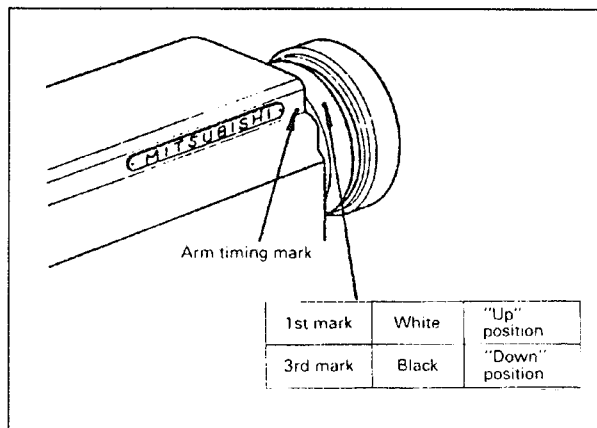
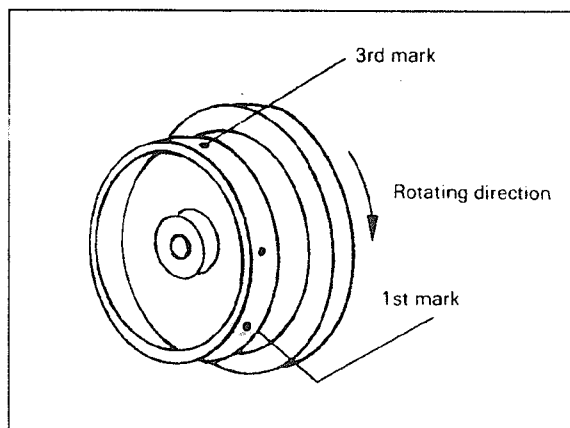
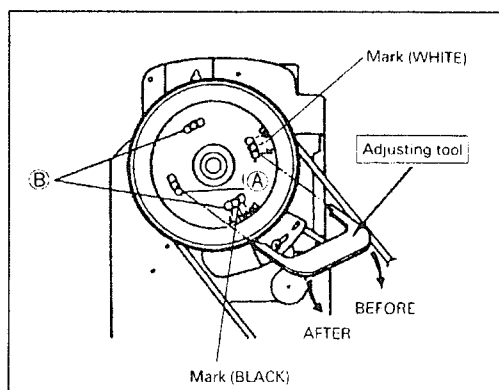

Fig.5
Fig.6
Fig.7
8、 Adjustment of needle bar stop position(Fig5, Fig6, Fig7):